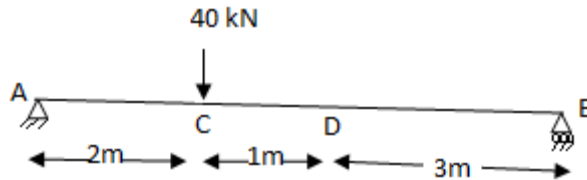

Figure.2
- (b) Determine the deflection at centre of the beam and slope at the end A of the beam shown in Fig 2. Take $E=200 \times 10^6 \text{ kN/m}^2$ and $I= 13 \times 10^{-6} \text{ m}^4$. Use the principle of virtual work. CO1-App (16)